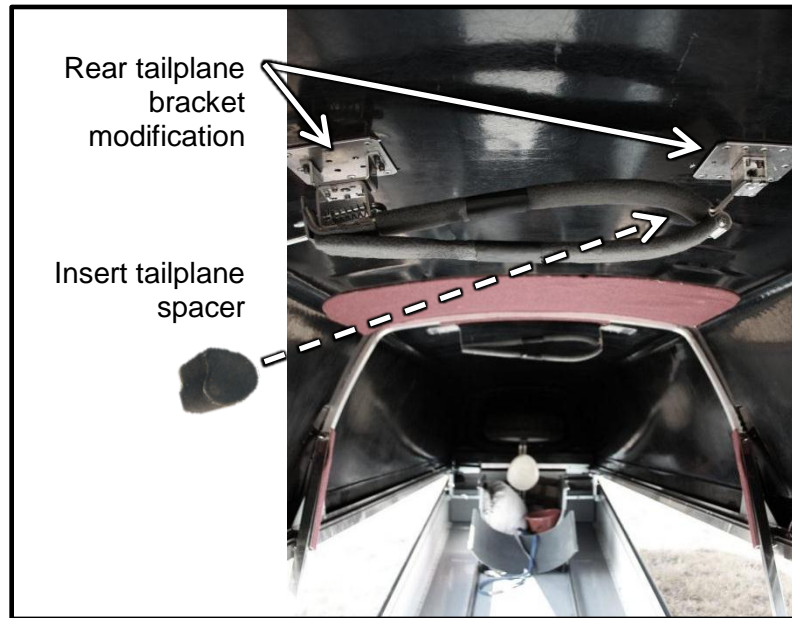
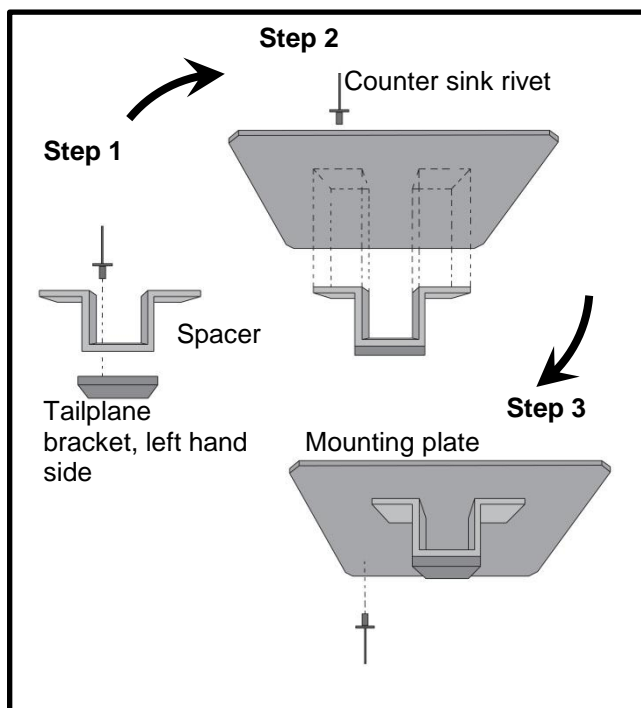
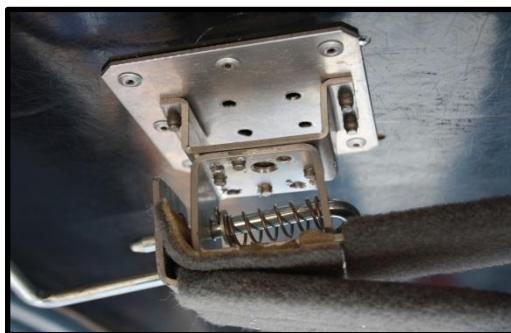

Figure 7
Figure 10
Figure 11
4.2. Reinstalling the brackets with spacers as illustrated in Figure 7 - Figure 10.
- 4.2.2. Reinstalling the left hand side of the tailplane bracket as illustrated step wise in Figure 10. Figure 11 illustrates the modification when complete.
4.2.3. Glue the tailplane spacer in position with contact adhesive as illustrated in Figure 7.